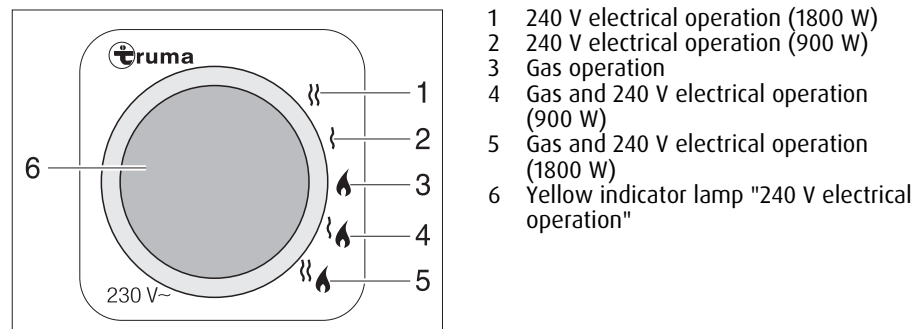

Fig. 113 Energy selector switch for heater/boiler
- Gas operation (Fig. 113,3)
- 240 V electrical operation with the output levels 900 W (Fig. 113,2) or 1800 W (Fig. 113,1)
- Gas and 240 V electrical operation (mixed operation) with the output levels 900 W (Fig. 113,4) or 1800 W (Fig. 113,5)
When 240 V electrical operation is selected, the yellow indicator lamp illuminates (Fig. 113,6).